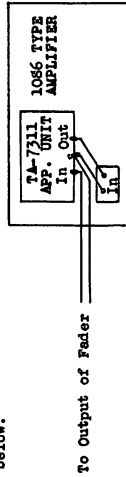

FIGURE 1
4.1 This apparatus unit consists of the apparatus and circuit shown on ASL-2818 arranged as a compact unit 4-3/4" x 2-3/4" x 4-3/4" H. When connected in the input to the 1086-A Amplifier (ahead of input terminals) the combination provides the same loudspeaker and film equalization as the A-1086-A, and is accordingly the electrical equivalent of the latter. It has the advantage that no internal modification of the 86-A Amplifier is involved, and its characteristic for Public Address or other additional use is unchanged. In cases of such P.A. or other use of the 86 type Amplifier, the TA-7311 Apparatus Unit should of course be connected in the input to the 86-A Amplifier. The TA-7311 Apparatus Unit should be connected in the output to bring the sound level to the same level, it should be inserted between the fader and the TA-7311 Unit. This is shown in Figures 1 and 2 below.